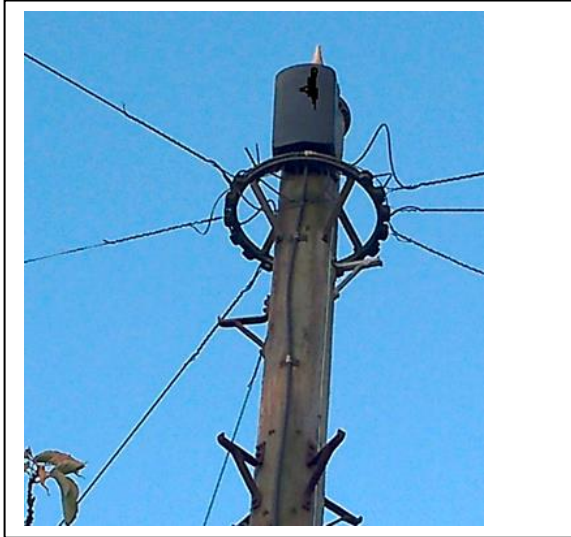

Figure 5: Preferred block location on Crown Ring Poles
- Where a Pole has a Crown Type Ring fitted, new Blocks / CBT's etc must be located above the Ring. See Figure 5 below.